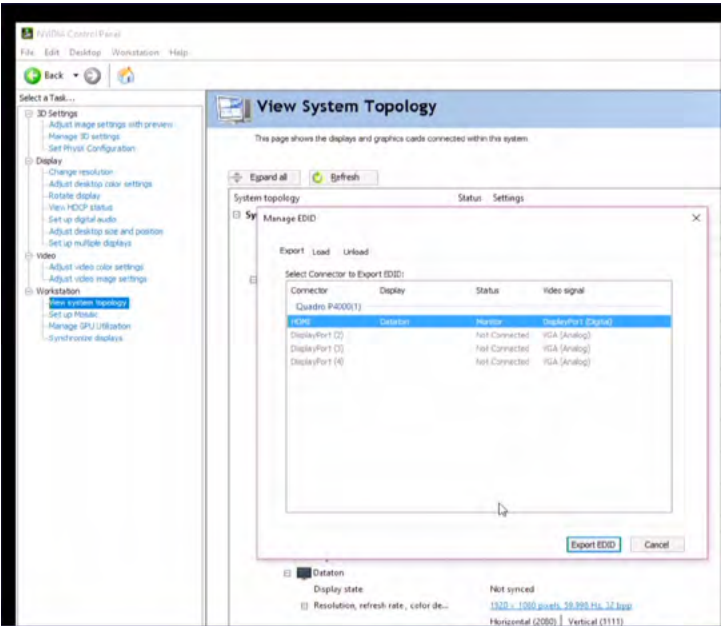

Figure 3
3. All outputs are listed within the Quadro P3000/P4000 section. Open the “Manage EDID” window by clicking the EDID link (figure 3).